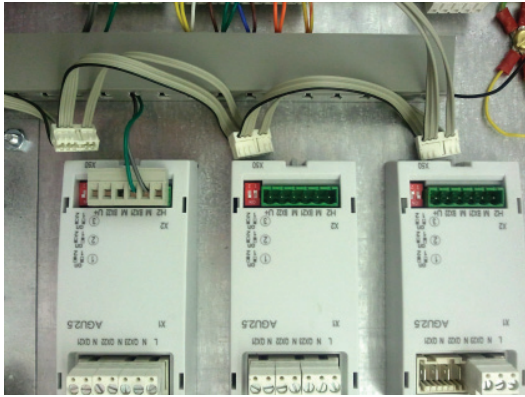
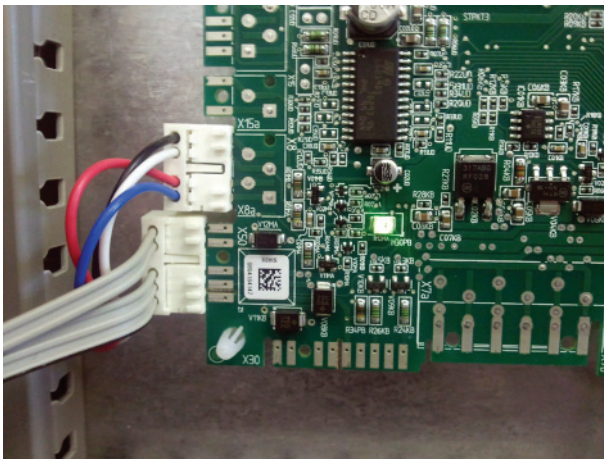

Fig 5.2
Fig 5.3
- Remove the ribbon cable connectors from each of the AGU2.5 modules (*fig 5.2*) and finally unplug the end of the ribbon on PCB1 connection X50 (*fig 5.3*)
- To operate QX2 on heat engine three. Switch off appliance, move connector from X50 on PCB2 to X50 on PCB3 and power up the appliance. (Fig 5.3)
- Remove the ribbon cable connectors from each of the AGU2.5 modules (*fig 5.2*) and finally unplug the end of the ribbon on the control board no 1 (*fig 5.3*)
- If commissioning heat engine no 3. Switch off appliance, move connector from X50 on control board 2 to X50 on control board no 3 and power up the appliance. (*Fig 5.3*)